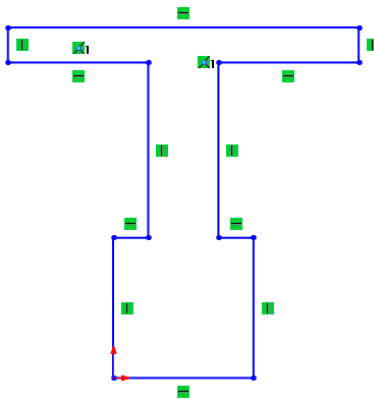

Figure 2-61 Final sketch for Tutorial 1
16. Move the line cursor vertically downward to the start point of the first line. Click when an orange circle is displayed; the final sketch for Tutorial 1 is created, as shown in Figure 2-61.
In Figure 2-61, the display of relations is turned on. To turn off the display of relations, choose the **View Sketch Relations** button from the **Hide/Show Items** flyout in the **View (Head-Up)** toolbar.